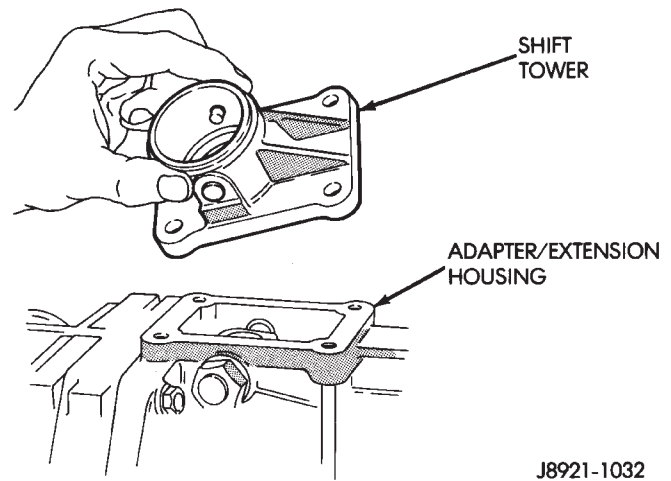

Fig. 128 Shift Tower Installation
(29) Install shift tower (Fig. 128). Tighten tower attaching bolts to 18 N·m (13 ft. lbs.) torque.
(30) Install new gasket on backup light switch and install switch. Tighten switch to 37 N·m (27 ft. lbs.) torque.
(31) Install new washer on drain plug. Then install and tighten plug to 37 N·m (27 ft. lbs.) torque.
(32) If transmission will be filled with gear lubricant before installation, place transmission in a level